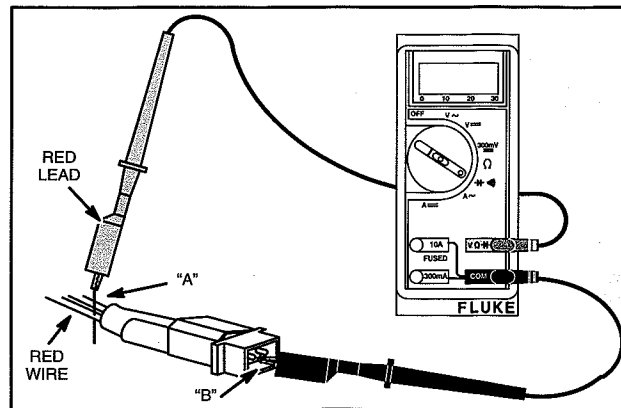

Fig. 15 – Testing Diode
4. Attach RED test lead clip to point “A” and BLACK test lead clip to point “B,” Fig. 15. (It may be necessary to pierce wire with a pin as shown.)